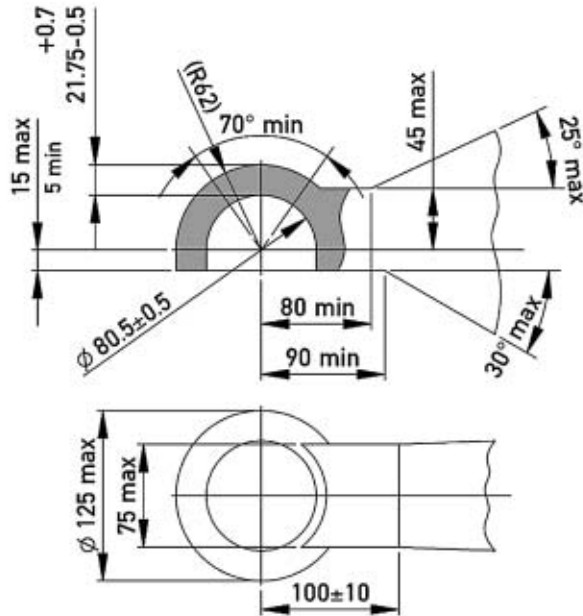

Fig. 3
- The necessary swivel angle must be observed (see Fig. 3).